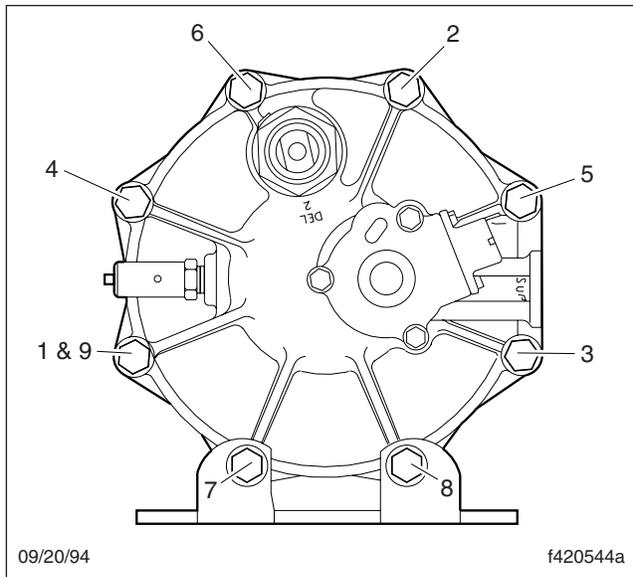

Fig. 2, End Cover to Housing Torque Pattern
16. Install the 6 bolts, 12 washers, and 6 new nuts. Tighten the bolts in a star pattern 270 to 385 lbf·in (3060 to 4340 N·cm). See Fig. 2.